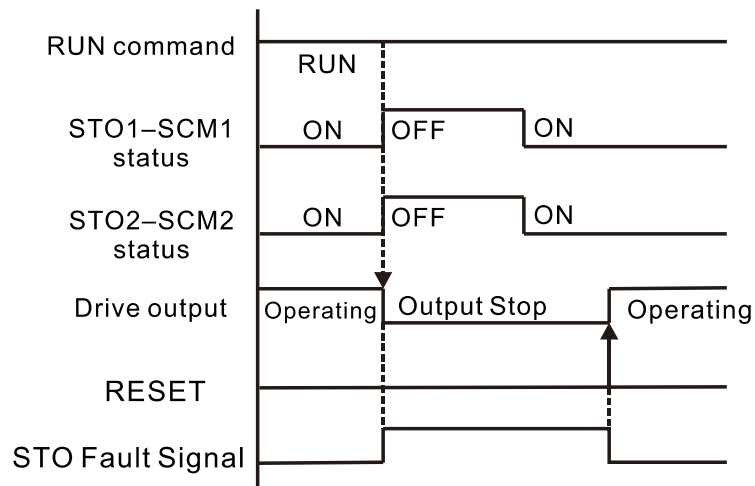

Figure 4
4. The common-mode noise of an unshielded power cable is transmitted to the ground via the stray capacitance. Since both shielded wire and unshielded wire are connected to a common ground, other systems can be interfered with by the common-mode noise that is transmitted from the ground back to the system via the shield. See Figure 4.